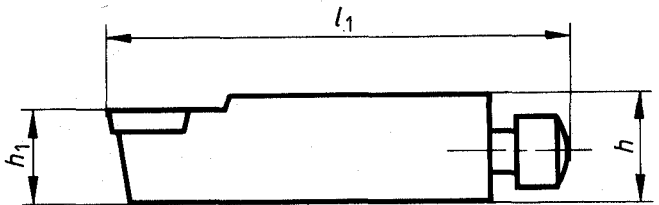

Figure 2
4.6.2 Cartridges with height of cutting edge h_1 not equal to shank height h (see figure 2)
4.7.2 Cartridges (see figure 2)